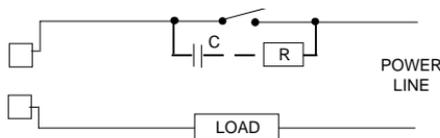

Fig. 13 EXTERNAL SWITCH IN SERIES WITH THE INTERNAL CONTACT
The same problems may occur when a switch is used in series with the internal contact as shown in Fig. 13.
In this case it is recommended to install an additional RC network across the external contact as show in Fig. 13. The value of capacitor (C) and resistor (R) are shown in the following table.